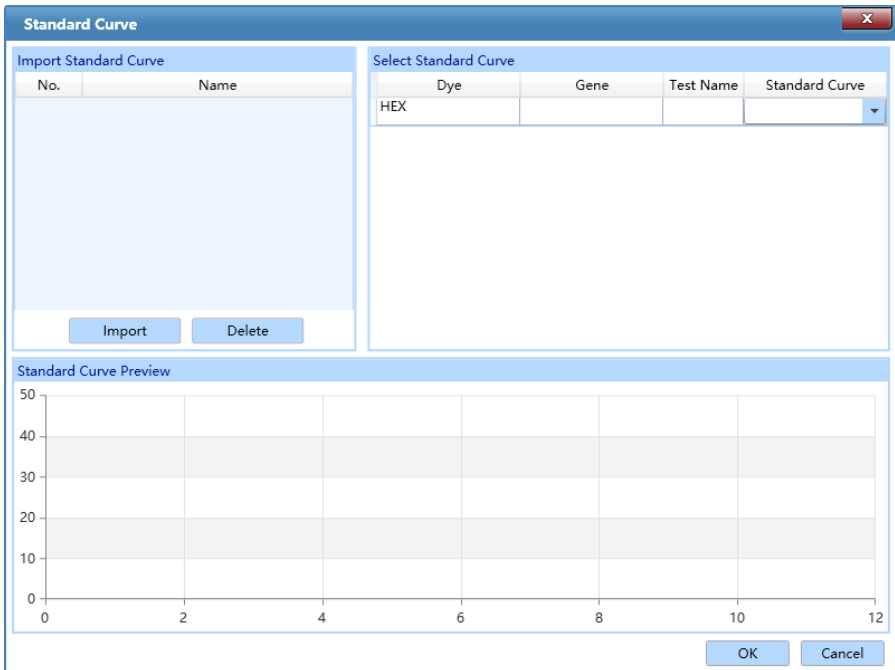

Figure E-10.2a. Abs Quant Analysis Interface - Standard Curve Window
- ▶ **< Load Std Curve >**: Click **< Load Std Curve >** and the application software will pop up the standard curve window, which consists of three parts **Import Standard Curve**, **Select Standard Curve** and **Standard Curve Preview**, as shown in figure E-10.2a.